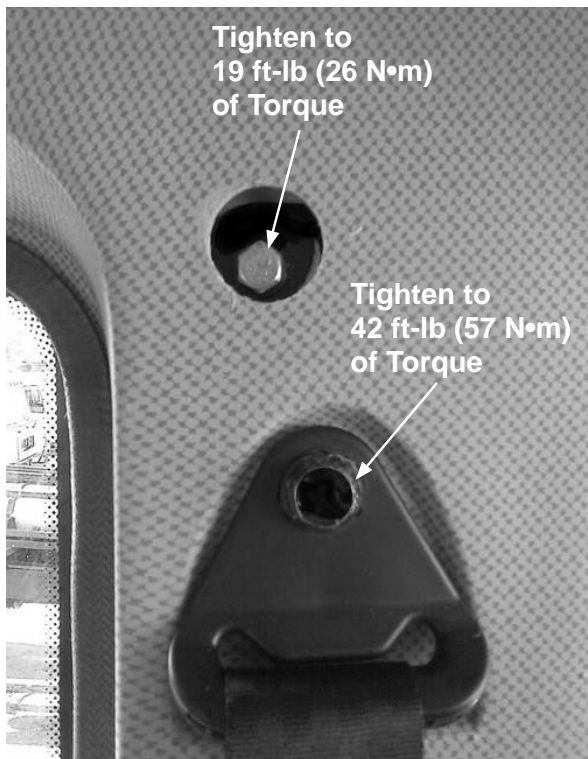

Figure 13-4
6. Tighten the external grab handle bolt (GM410108AD13) to 19 ft-lb (26 N•m) of torque (see Figure 13-4).
7. Tighten the seat belt web anchor bolt (S5000014-001) to 42 ft-lb (57 N•m) of torque (see Figure 13-4).